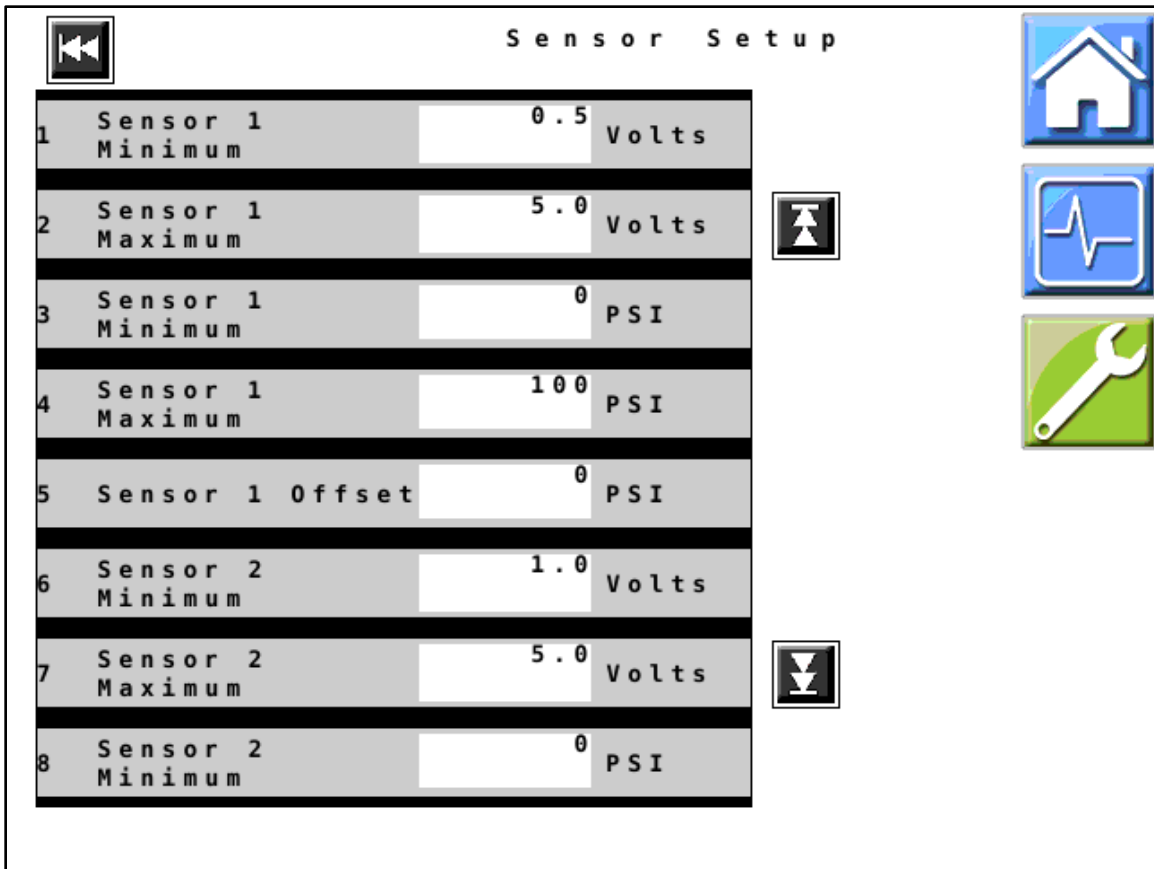

Figure 13 — Sensor Setup Page 1
23. *Figure 13:* Verify that all values displayed on your unit match those shown here. Change values if necessary.